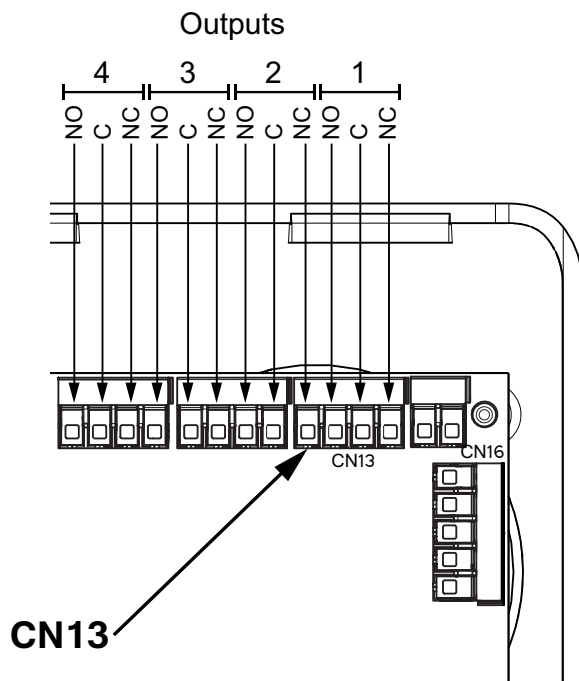

Figure 15 Generic output connections on terminal CN13.
- **Generic outputs:** these are 4 generic dry-contact outputs to activate either normally open or normally closed external devices - see Figure 15
There are four generic dry-contact outputs located on terminal CN13. These outputs can be used to operate a normally open (NO) or normally closed (NC) switch, such as a magnetic door lock. Each output has connections for normally open (NO), normally closed (NC), and common (C) contacts (see Figure 15).